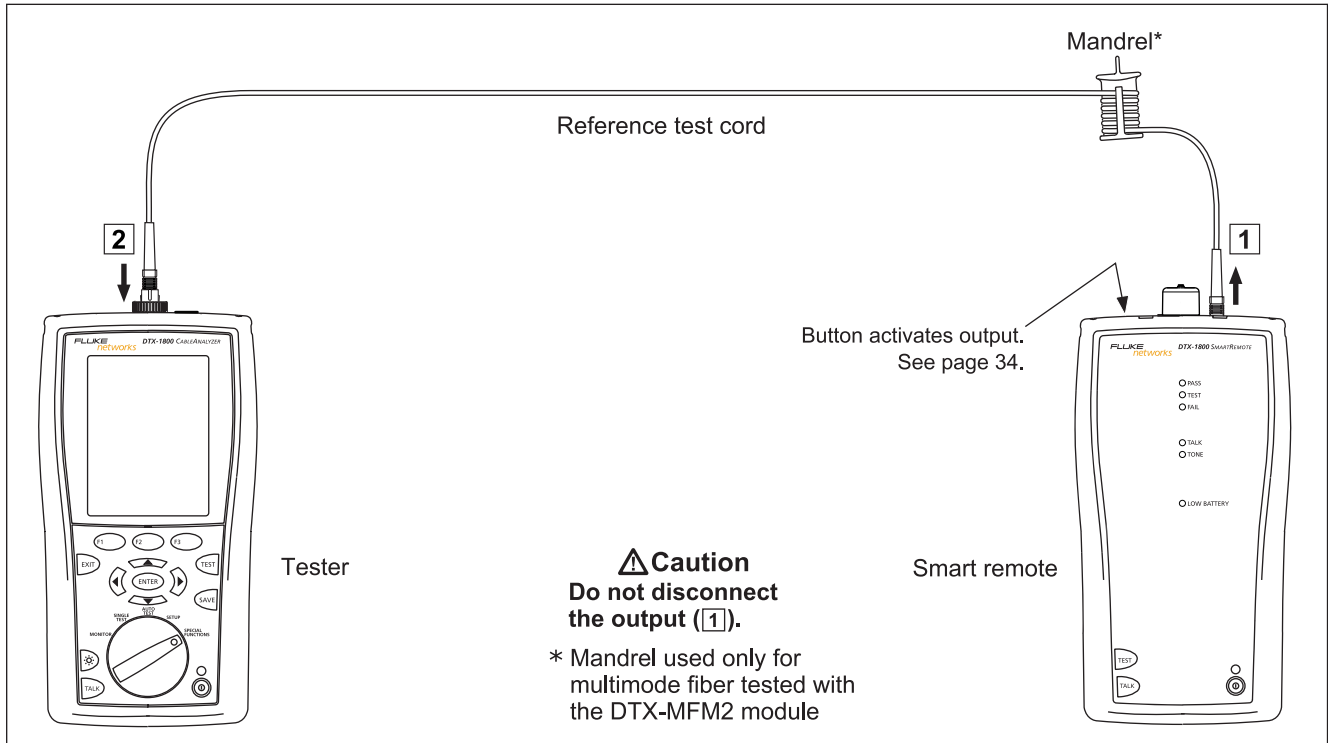

Figure 14. Far End Source Mode Reference Connections (Method B)
- 5 The **Set Reference** screen shows connections for the test method you selected. Figure 14 shows connections for Method B. Clean the connectors on the tester, reference test cord, and source, connect the tester and source; then press .